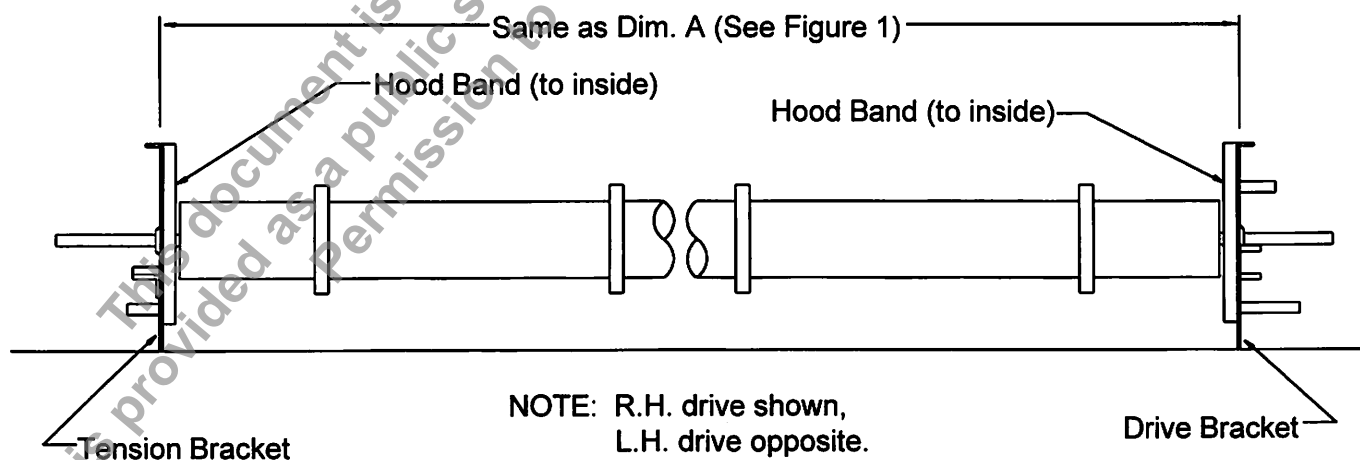

FIGURE 3B
Step 3B. Raise barrel off the floor and place the proper bracket on each end of the barrel. See Figure 3B.